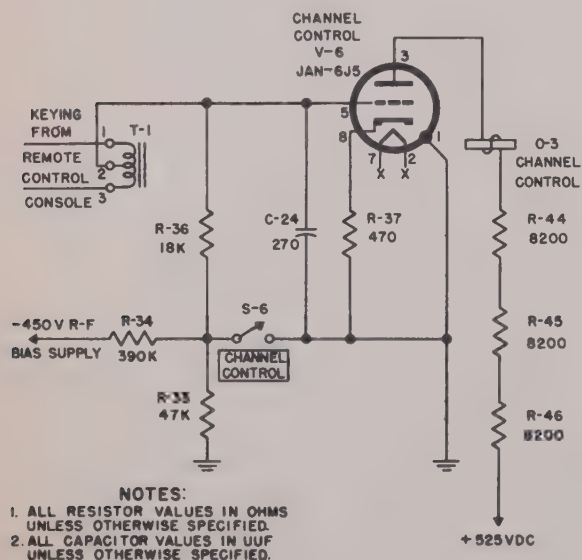

Figure 44. Radio Transmitter Model 96D, simplified schematic diagram of electronic channel control circuit
59. Electronic Channel Control (fig. 44)